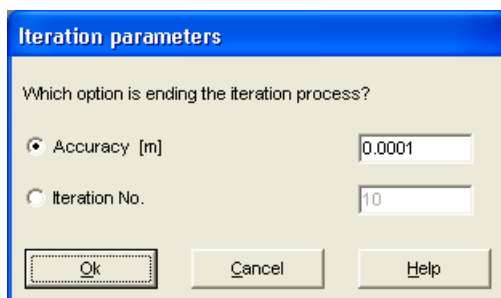

Figure 1-31 "Iteration parameters" option box
- Choose "Computation of all" command from "Calculation" menu in *ELPLA-Solver* Window. The following "Iteration parameters" option box in Figure 1-31 appears